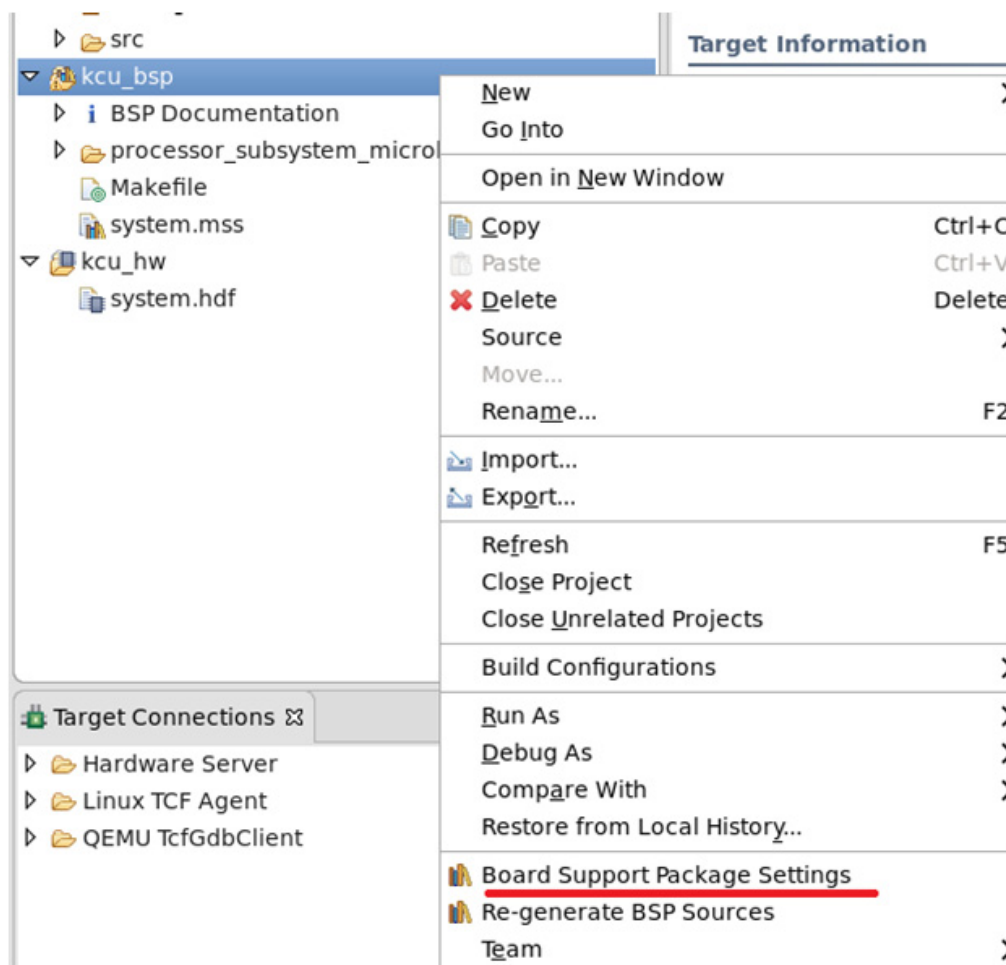

Figure D-1: Path to Board Support Package Settings
1. Click **bsp** in the SDK and right-click to select **Board Support Package Settings** (Figure D-1).